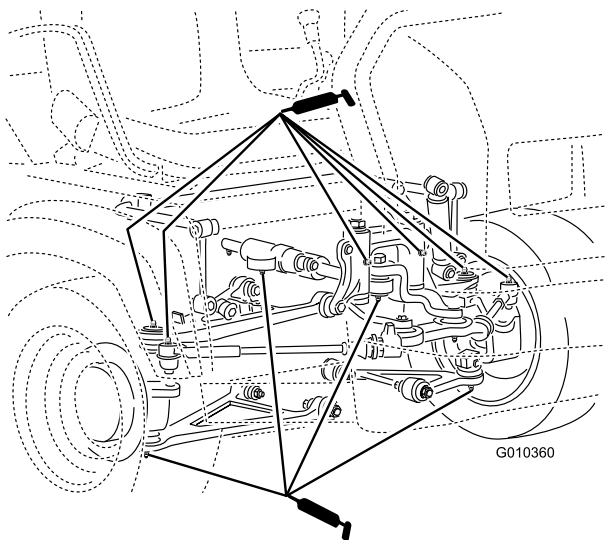

Figure 41
- Ball joints (4), tie rods (2), pivot mounts (2) and steering cylinder (2) (Figure 41)